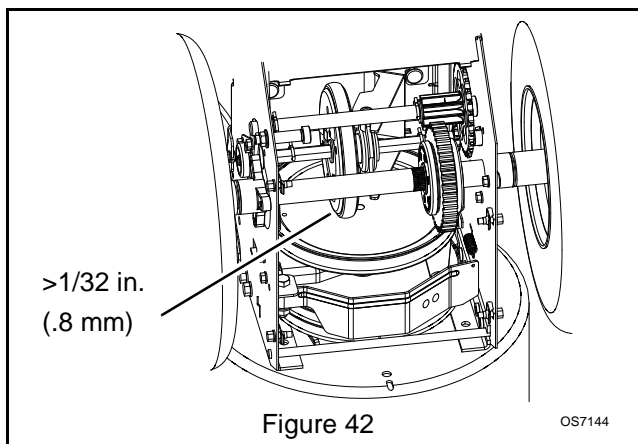

Figure 42
7. With the clutch disengaged, check that there is more than 1/32 in. (0.8 mm) clearance between friction disc and drive plate assembly (Figure 42).